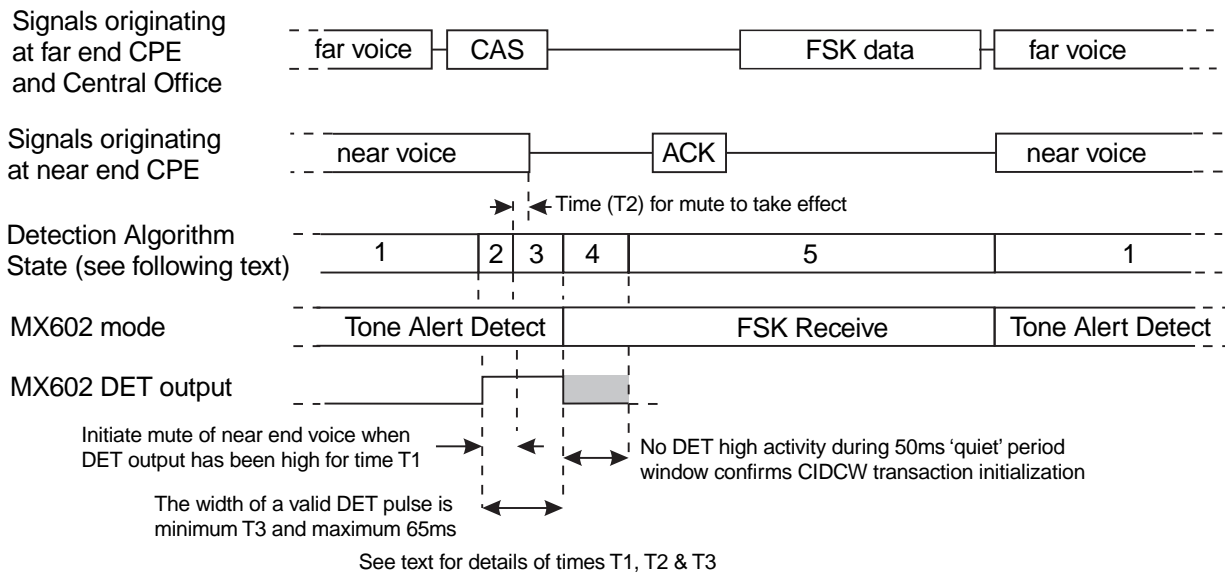

Figure 15, CIDCW Transaction Initiation with MX602 Operation
From the near end CPE's perspective, the initiation of a CIDCW transaction is characterized by two events occurring in sequence: (1) a CAS dual tone is received, and (2) a subsequent quiet period passes as far end speech continues to be muted. These two events can be detected by the MX602's Dual Tone Alert detector and FSK level detector, respectively. Caller ID and CIDCW end products typically use a microcontroller to manage the transfer and display of Caller ID data. The same microcontroller is easily used to observe and control the MX602 CIDCW transaction initiation detection process. It measures an MX602 DET output pulse duration, mutes near end voice, subsequently watches for DET output activity, and controls whether the MX602 is in Dual Tone Alert or FSK Receive modes as shown in Figure 15.
The following State Transition Diagram Figure 16 and following text provide a detailed description of the CIDCW detection procedure as shown in Figure 15.